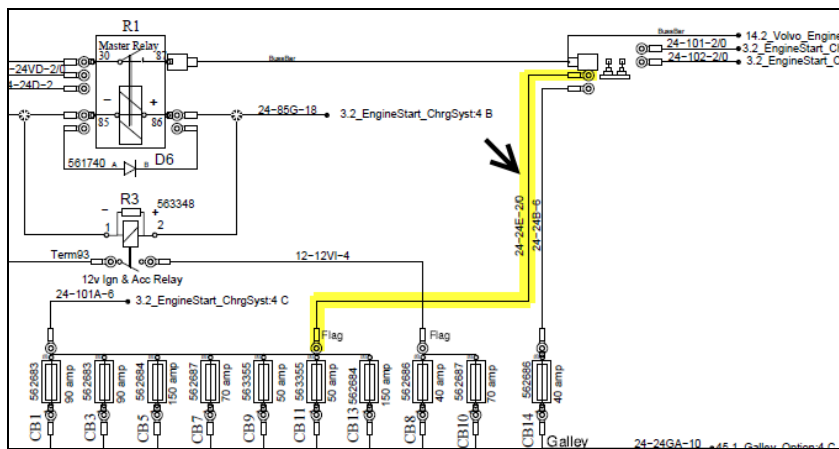

Figure 8
- Between **Bussman junction block** and **main circuit breakers' bus bar** (Figure 8).